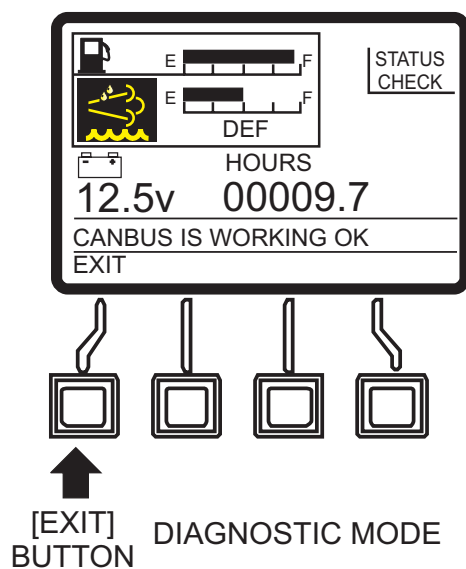

Figure 93. Status Check Screen (Diagnostic Mode)
2. Exit the Status Check screen by pressing the **[EXIT]** button (Figure 93).